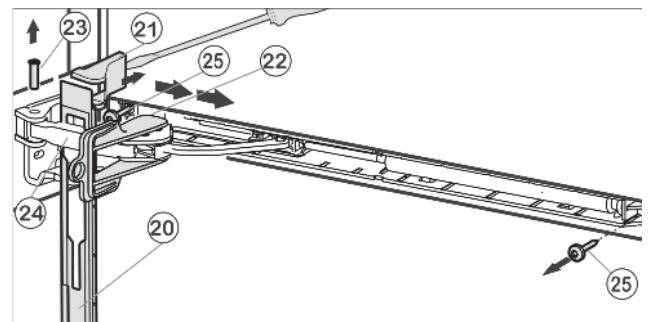

Fig. 11
- ▶ Push panel forward over the damper bracket *Fig. 11 (24)* in the direction of the appliance.
- ▶ Engage locking device *Fig. 11 (22)* into place inside oblong hole.
- ▶ Lift off cover *Fig. 11 (21)* from the outside using a screwdriver and remove by pulling outwards.
- ▶ Push bolt *Fig. 11 (23)* out from below.
- ▶ Press damper bracket *Fig. 11 (24)* in the direction of the door.
- ▶ Remove panel *Fig. 11 (20)*.
- ▶ Unscrew entire soft stop unit (2 x Torx® 15) *Fig. 11 (25)*.